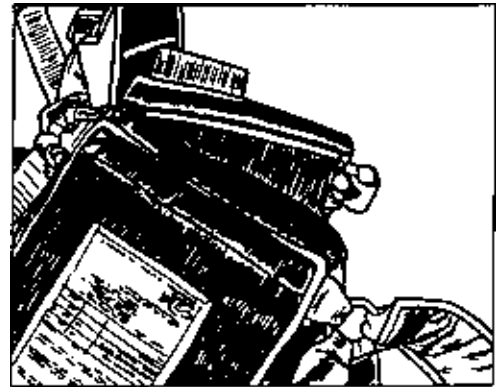

Figure 7
Step 6 Slide the pilotchute into the pocket so that only the handle protrudes. *Figure 7*